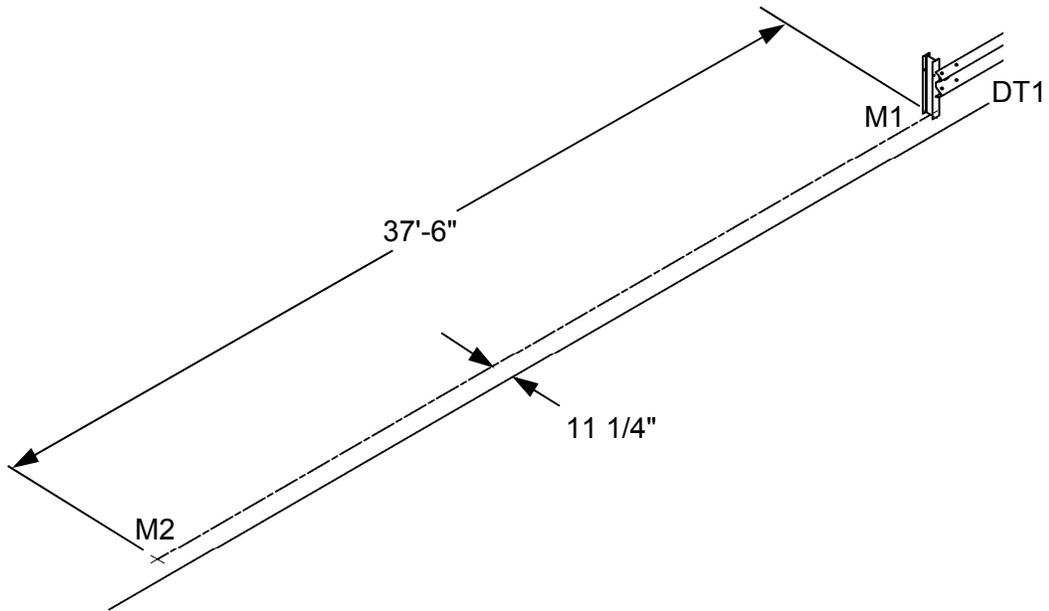

Figure 4 - Locating Post 1
- 1.4 Locate the first post of the TREND® 350 Tangent End Terminal (i.e., Post 1, p. 12). First measure from mark (M1) a distance of 37'-6" upstream and make a second mark (M2) which is perpendicular to datum line (DT1). Verify the perpendicular distance of 11 1/4" from mark (M2) to the datum line (DT1). Adjust mark (M2) if necessary (Figure 4).